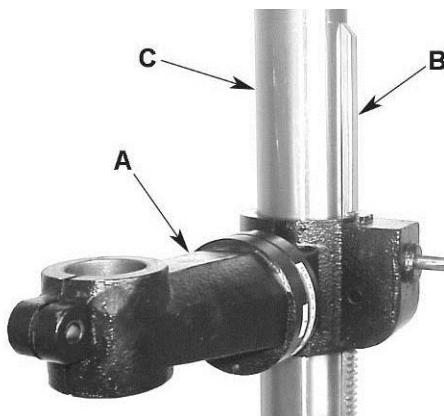

Figure 2
Referring to Figures 2 and 3:
1. Remove the wrap and take the *rack ring* (D) and *rack* (B) off the *column* (C).
2. Install the *table bracket* (A) together with the *rack* (B) as shown in Figure 2.